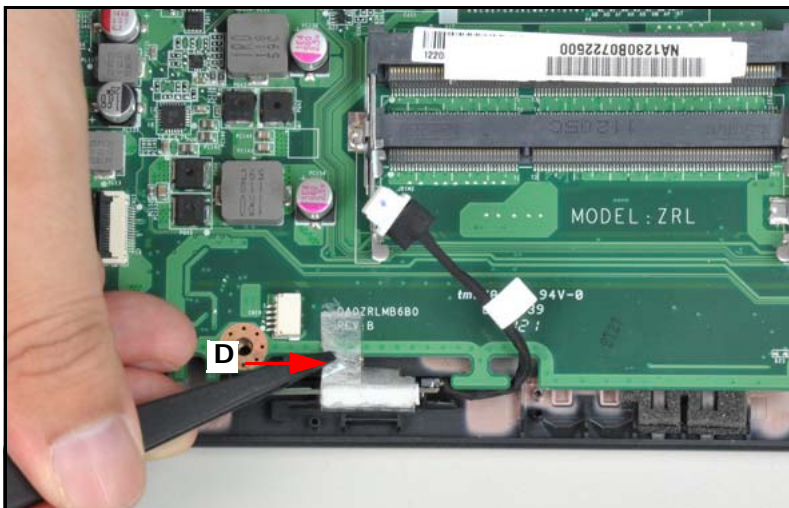

Figure 3-23. Bluetooth Module
3. Remove the mylar tape (D) (Figure 3-23).
1. Connect the Bluetooth cable (B) to the bluetooth module (Figure 3-23).